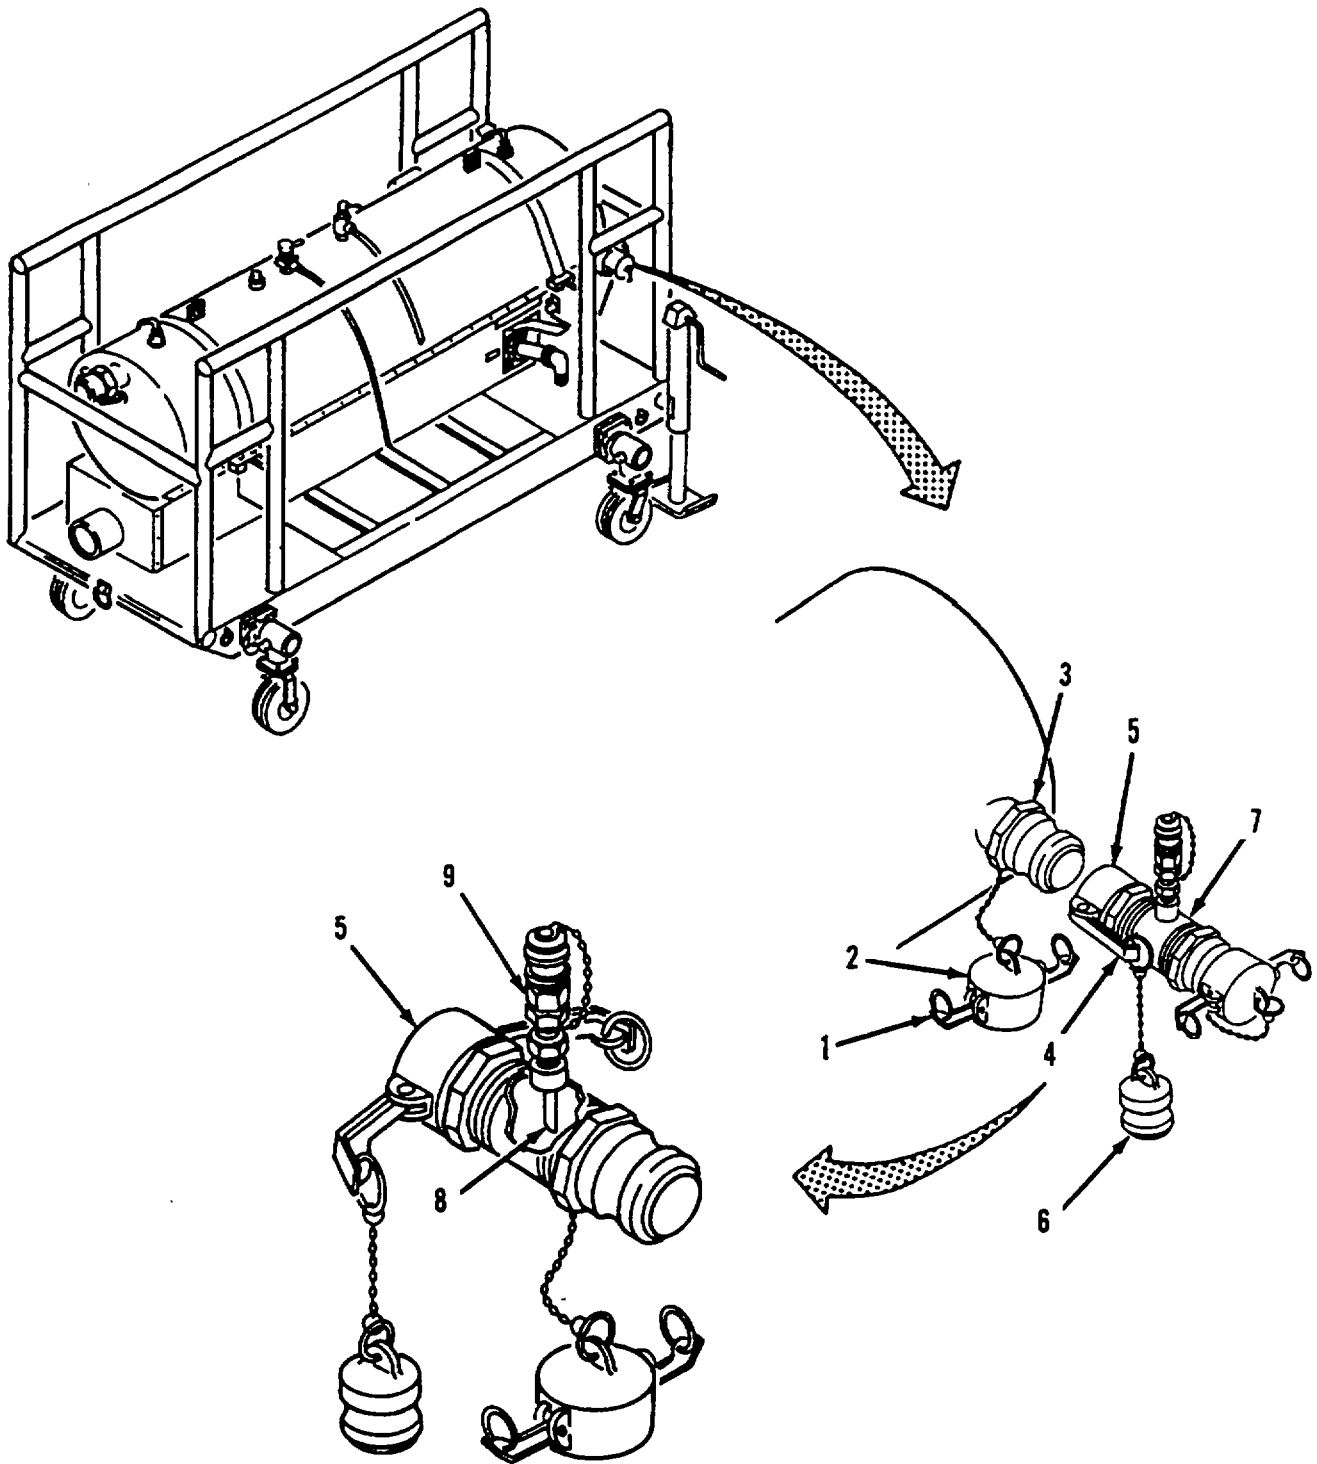

Figure 2-11. Adapter Assembly, Water Detection, Installation.
e. Adapter Assembly. Water Detection. Installation(Refer to Figure 2-11)
- (1) Pull locking arms (1) up and out from dust cap (2) and remove dust cap (2) from filter-separator outlet coupling (3).
- (2) Pull locking arms (4) up and out from coupling (5) and remove dust plug (6) from adapter assembly (7).
- (3) Make sure that the bevel (8) on the sampling probe(9) is pointed in the direction of female coupling (5).
- (4) Attach adapter assembly (7) onto outlet coupling (3). Push locking arms (4) back against coupling (5) to secure adapter assembly (7) to filter-separator outlet coupling (3).
- (5) Install dust plug (6) into dust cap (2) and push locking arms (1) back against dust cap (2) to secure dust plug (6).